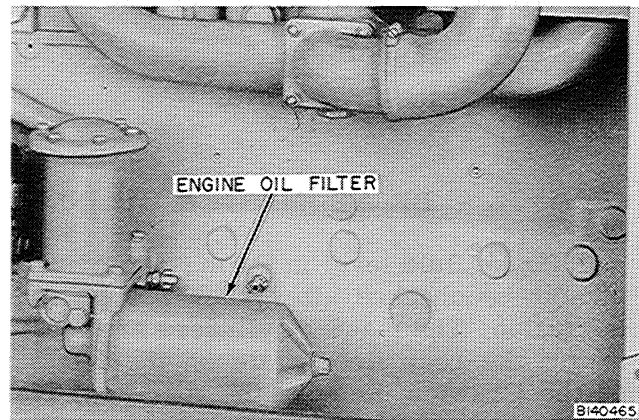

Figure 11 - Changing Engine Oil Filter
3. Install a new Case Filter Element on the bolt. Be sure the element is installed as shown in Figure 11. Be careful not to push the rubber grommet seal out of the element.